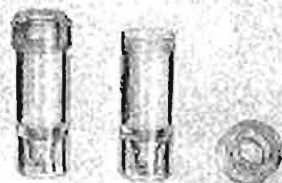

Figure 4. SEDI-CAL Centrifuge Tube/Cap.
The usual sedimentation equipment and the techniques(6),(7),(8) permit a considerable range in sediment concentration. The SEDI-CAL Centrifuge Tube (Figure 4) has been designed to standardize the concentration of urine sediment, thereby providing improved reliability in estimating the quantities of various materials present.